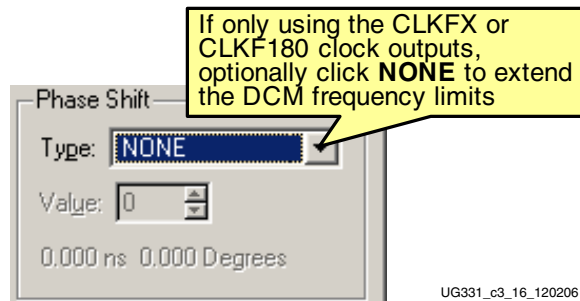

Figure 3-42: Select No Feedback (None) to Extend Frequency Synthesizer Frequency Limits
- Disable DCM feedback by selecting **None**, as shown in Figure 3-42. Without feedback, the CLKFX and CLKFX180 frequency range is extended to both lower and higher frequencies.